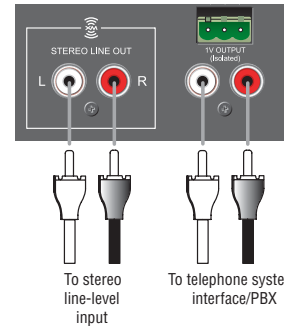

Figure 2.9 Connections to the Stereo Line Out Connector and the MOH Stereo Line Out Connector
Use 1-conductor shielded cable and RCA plugs for the Stereo Line Out connector and the MOH 1V Line Output RCA Connector (Figure 2.9).
- **MOH 1V Line Output Phoenix Connector:** 3-pin Phoenix connector, 600-ohm transformer-isolated output, provides Music-On-Hold signal of approximately 1 volt. See Figure 2.9.
- **MOH 1W Line Output Connector:** 3-pin Phoenix connector provides Music-On-Hold signal of approximately 1 watt. See Figure 2.9.